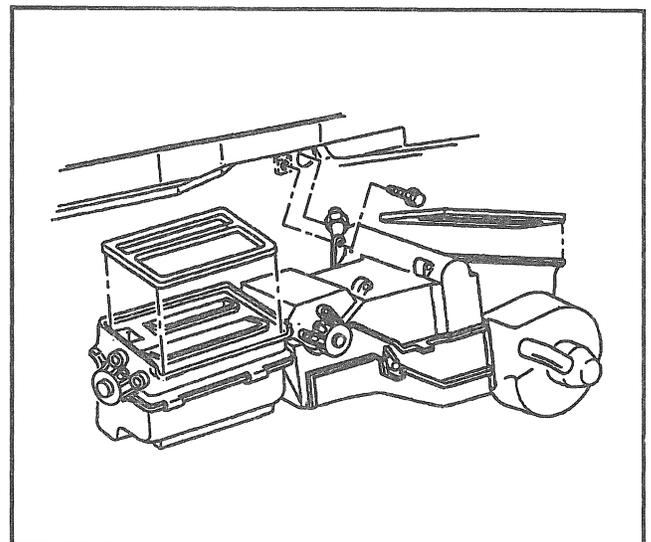

Figure 10—Heater Case (1 of 2)
### Remove or Disconnect (Figures 10 and 11)
### Install or Connect (Figures 10 and 11)
12. Screw on interior side of cowl, near the evaporator pipe (if equipped) while holding heater case to the cowl (Figure 10).